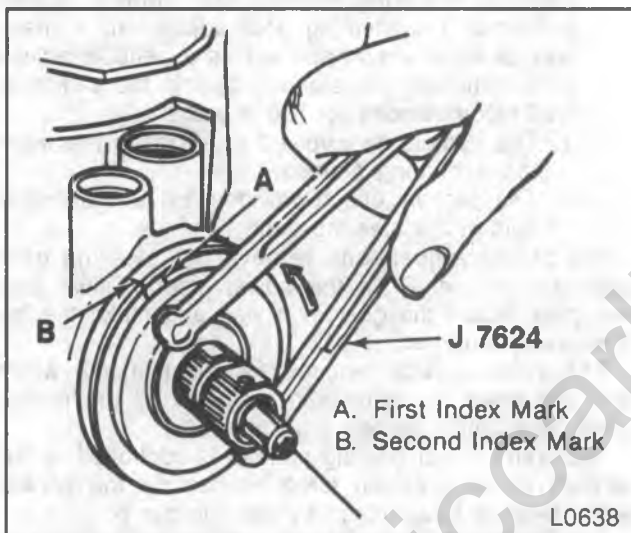
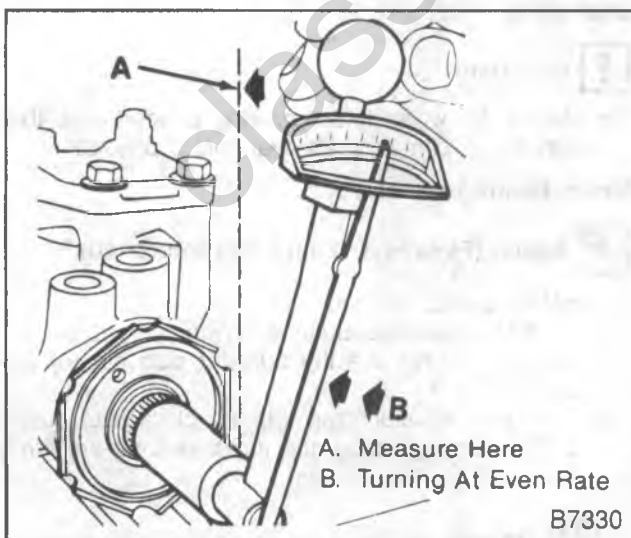

Figure 19—Aligning the Adjuster Plug to the Second Mark
Figure 20—Checking Rotational Torque
5. Rotate the adjuster plug back (counterclockwise) using J 7624 until the hole in the plug is aligned with the second mark on the housing (figure 19).
6. Install the adjuster plug nut (6).
7. Use an inch-pound torque wrench and a 12-point deep socket to measure the required torque to turn the stub shaft (4). Take the reading with the handle of the torque wrench near the vertical position. Turn the stub shaft to the right stop and then back (counter-clockwise) 1/4 turn at an even rate (figure 20). Record the torque reading.
8. The torque required to turn the stub shaft should be 0.45-1.13 N·m (4-10 in. lbs.). If the reading is above or below the specified torque, the adjuster plug may not be lightened properly or may have turned when the adjuster plug nut was tightened, or the thrust bearings and races (22) may be damaged.